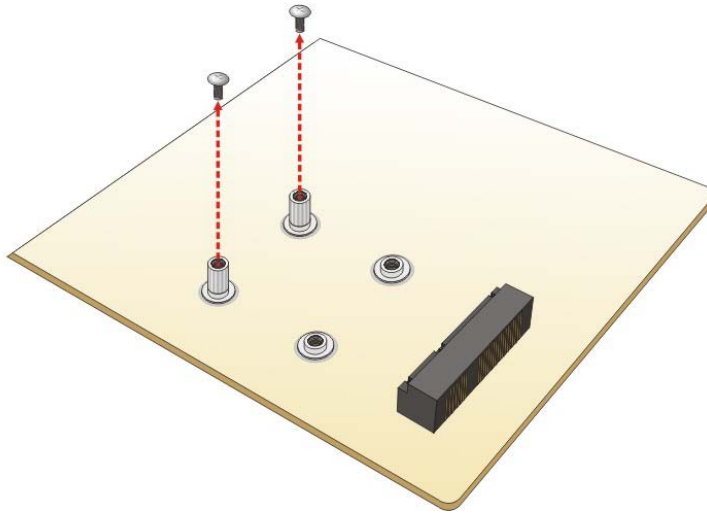

Figure 3-8: Removing the Retention Screws
Step 3: Remove the retention screws. Remove the two retention screws as shown in **Figure 3-8**.